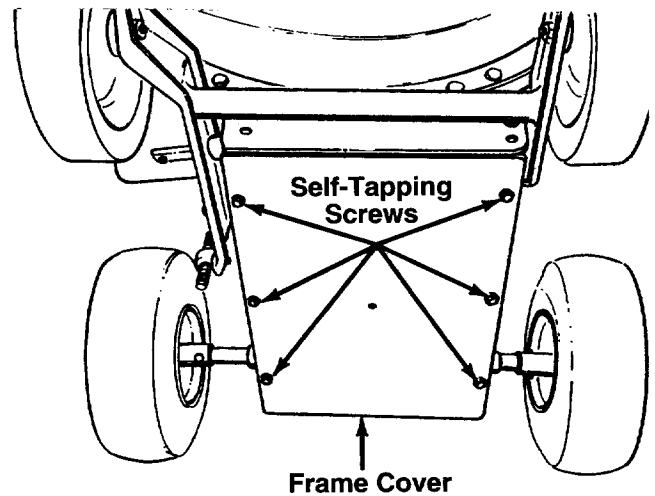

FIGURE 23.
- Remove the frame cover by removing eight self-tapping screws from underneath the chipper-vacuum. See figure 23.